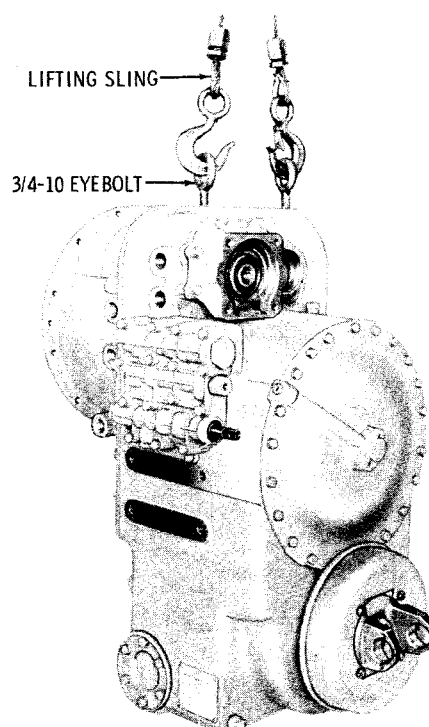

Fig. 5-1. Lifting transmission
a. Install Eye Bolts. All TT and TTB transmissions in the 2001 Series have two 3/4-10 tapped holes in the top of the transmission housing. Eye bolts may be installed into these holes to provide a means of supporting or positioning the transmission housing during disassembly (fig. 5-1).